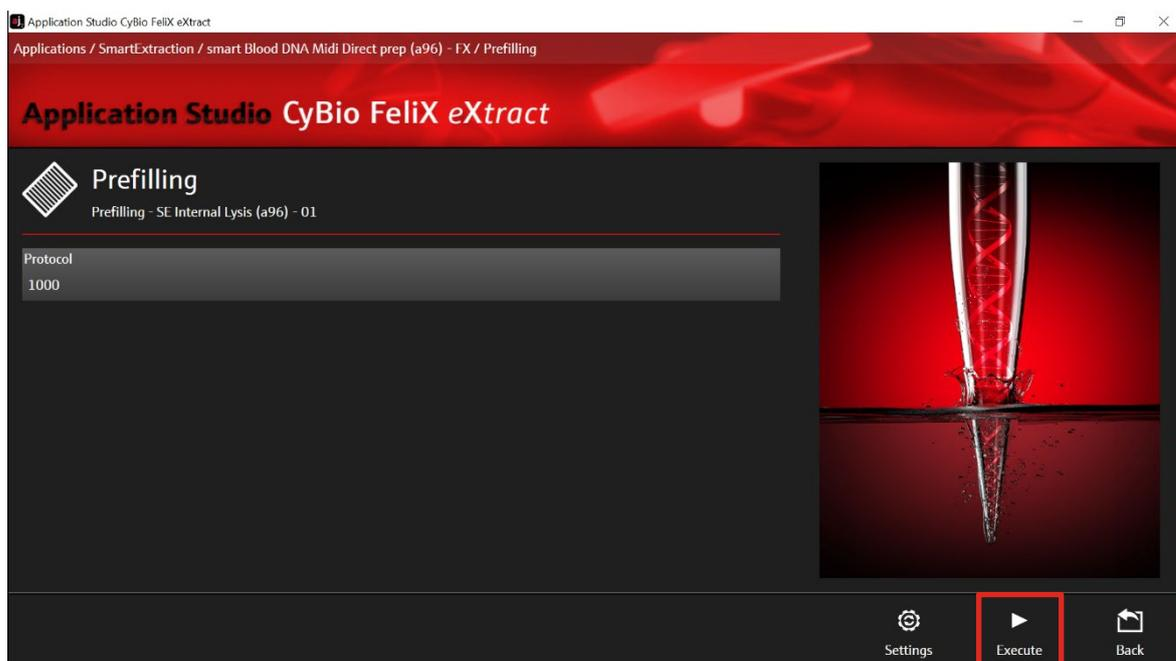

Figure 26: Selection of the prefilling protocol for up to 1000 μL sample volume.
17. After selecting "Prefilling" the Prefilling Start Screen appears (→ see Figure 26).
19. To adjust the sample volume, click the button "Protocol". Choose "1000 μL " for sample volumes between 600 and 1000 μL (\rightarrow see Figure 26).